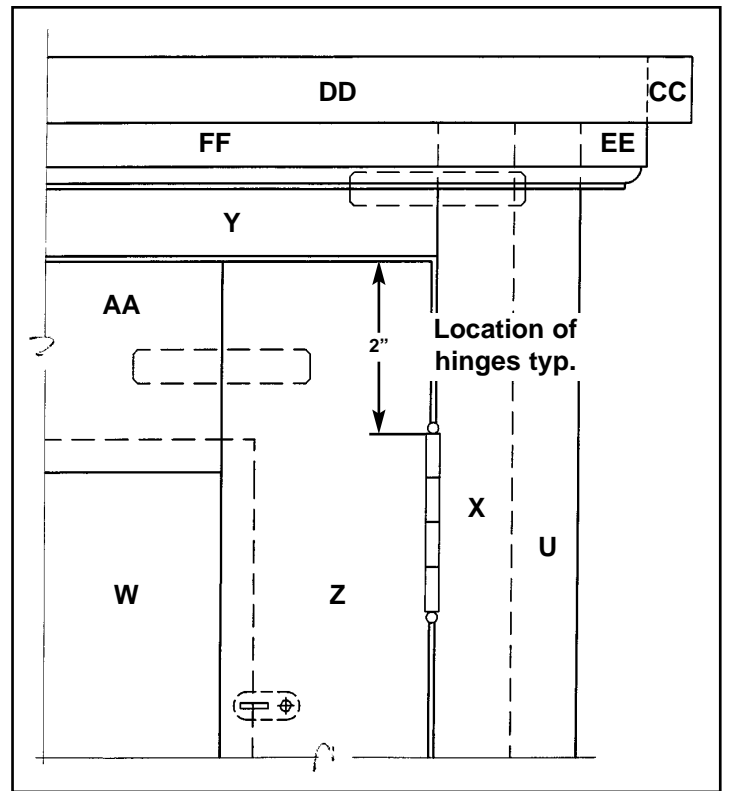

Figure 6
13. Miter one end of boards Q and CC and both ends of boards R and DD as indicated in Isometric. Use 1" finish nails and glue to attach R and Q to board P and CC and DD to board BB. Refer to Isometric and Figure 6.
14. Route a decorative edge on boards EE and FF (refer to Figure 6). Miter one end of boards EE and both ends of board FF as indicated in Isometric. Use 1" finish nails and glue to attach EE and FF to the upper cabinet.